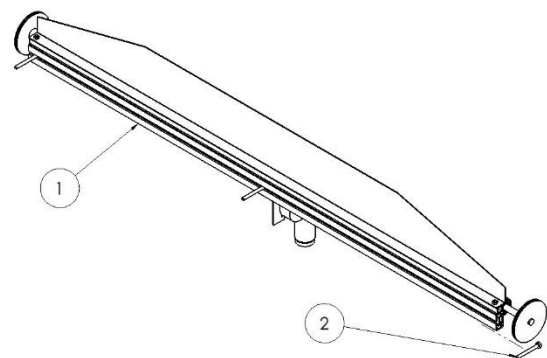

Figure 1.3
Slide the 3,  $\frac{1}{2}$ "-13 x  $4\frac{1}{2}$ " carriage bolts (2) that are provided into the slot located on the back of the kbar (1) and space them, so they align with the holes that were previously drilled on the dump box. (Fig. 1.3)